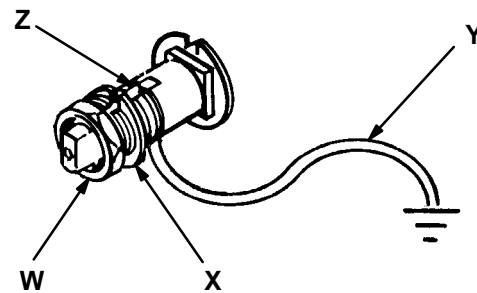

Fig. 1
1. *Pump*: loosen the grounding lug locknut (W) and washer (X). Insert one end of a 1.5 mm² (12 ga) minimum ground wire (Y) into the slot in lug (Z) and tighten the locknut securely. See Fig. 1. Connect the other end of the wire to a true earth ground. Order Part No. 237-569, Ground Wire and Clamp.